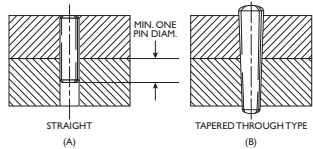

Fig. 12-6 Through pin type.
1. When the dowel pin-hole extends completely through the two mating parts, the pin installation is referred to as a through pin. This type of installation is preferred and shown in Fig. 12-6.